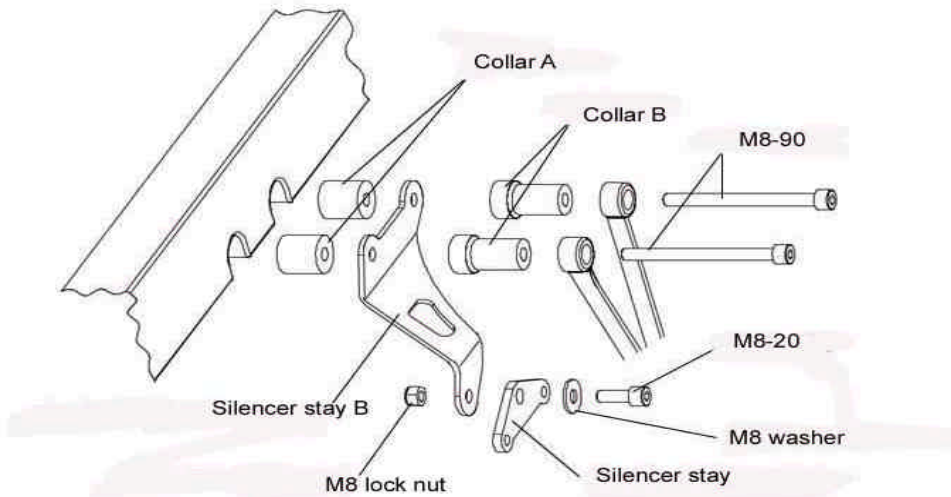

Fig. 1
4. Remove the right passenger foot peg from the sub frame. Reattach the passenger foot peg with supplied silencer B, Collar A and B and bolt (M8-90mm). (See fig. 1)
4. Lightly attach the silencer stay using the supplied bolt (M8-20mm), M8 lock nut and washer. (See fig. 1)